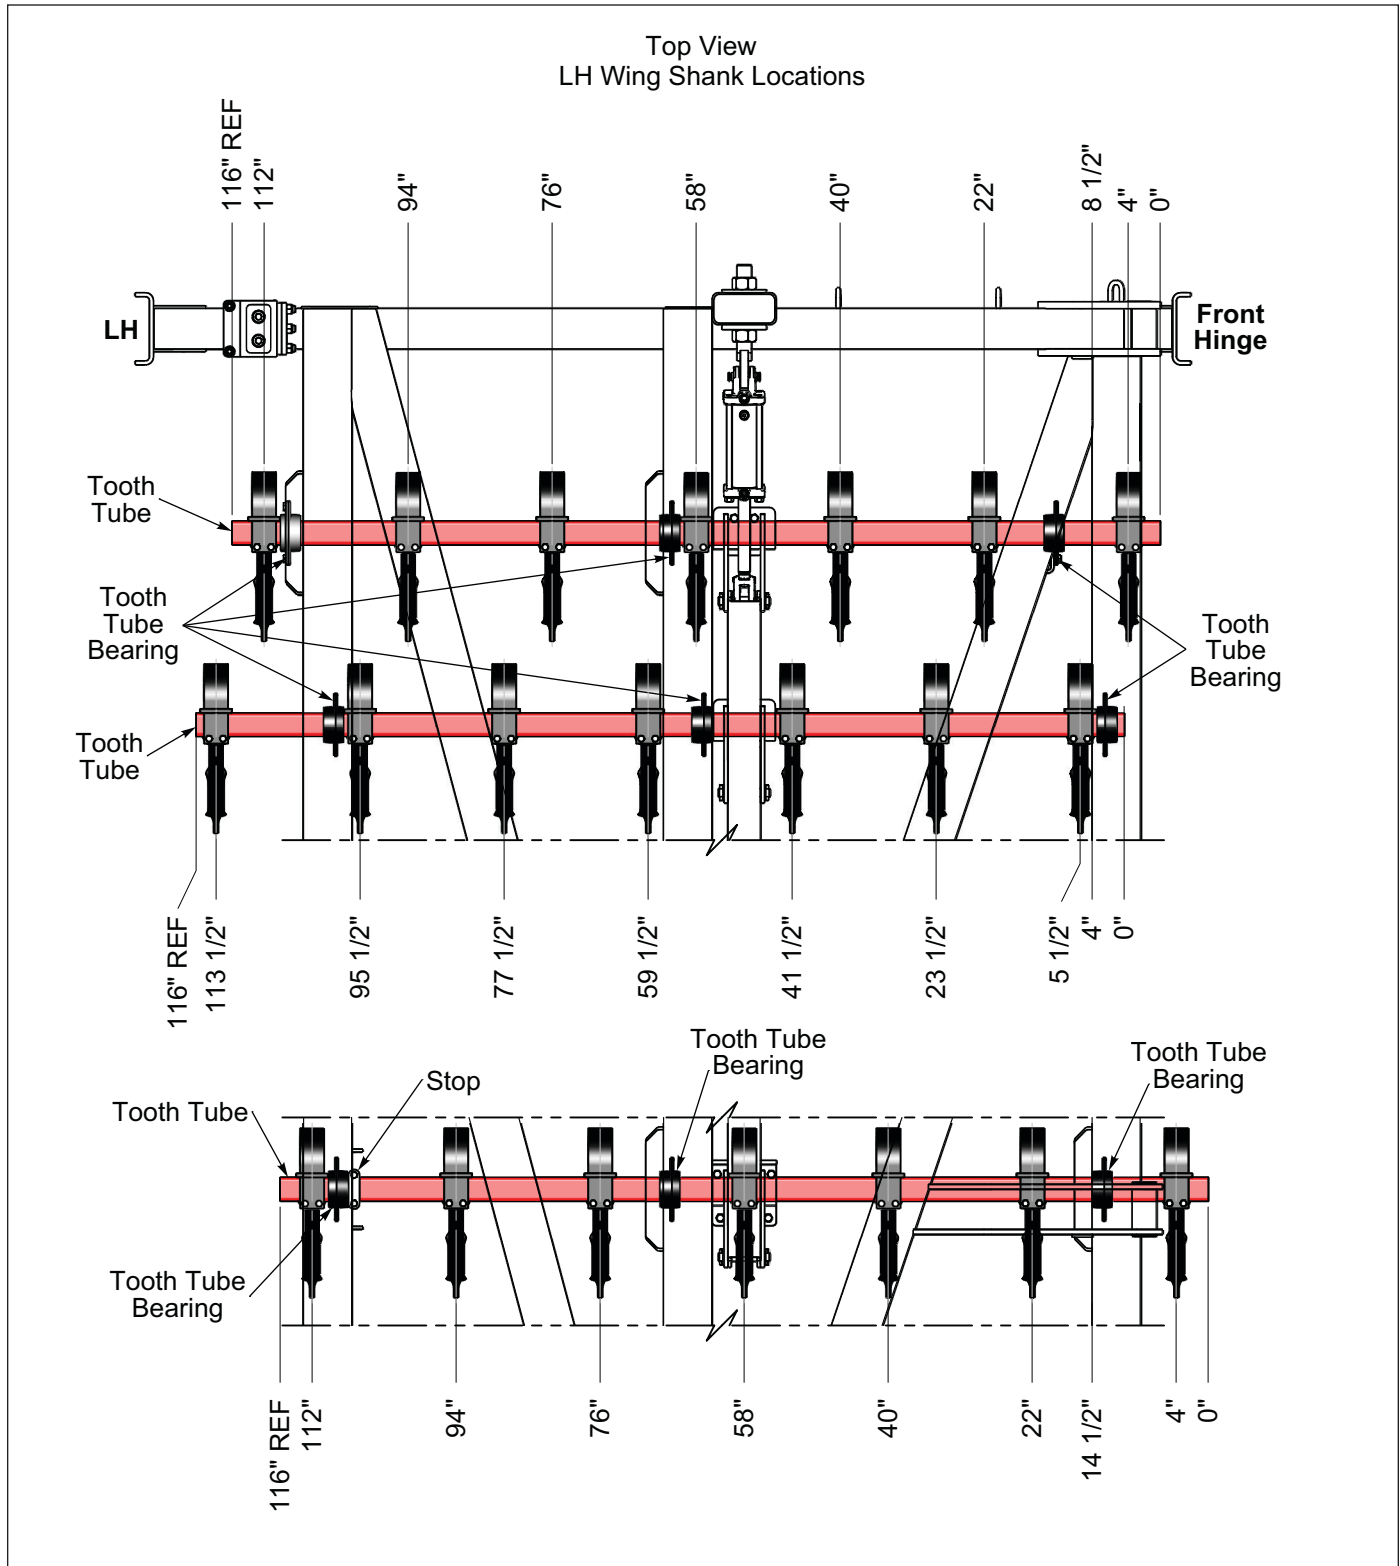

Figure 2-61: Left Hand Wing Shank Mounting Dimensions
1. After marking the tubes for the shank locations, slide the 116" Tooth Tubes into the Tooth Tube Bearings accordingly. See **Figures 2-61 and 2-62**.
3. Mount the Shanks to the Wing Tooth Control Tubes using two 1/2-13 x 5 Bolts and Locknut. **See Figures 2-61 and 2-62** for Left and Right hand Shank Mounting Dimensions.